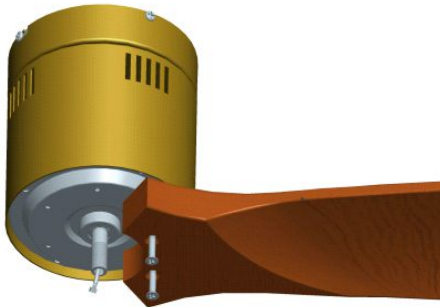

Fig 7.1
7.1 Locate 6 blade attachment screws and washers in the hardware pack. Make sure each blade matches the corresponding place of the motor hub and tighten with the screws and washers as shown in Fig 7.1.